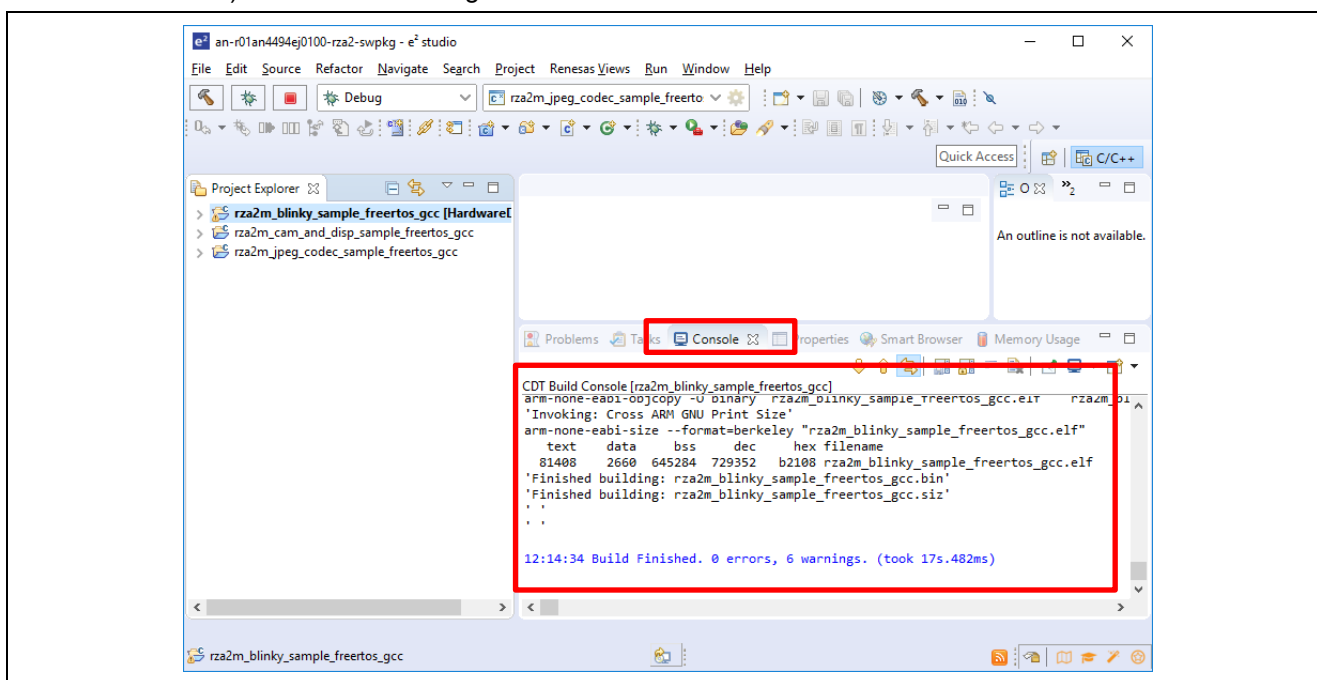

Figure 3-9 Confirmation build status
- e2 studio tool build the project, and the build status can be confirmed in Console window (Note: Please mind the length of your workspace path. If the path is too long, there is a possibility of build error.) This is shown in Figure 3-9.